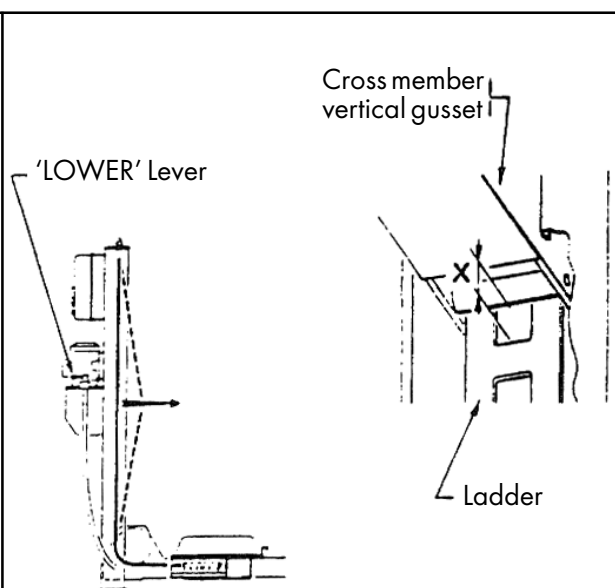

Fig. 13
- Lower the platform to the ground. Release the button that unlocks the latches and then the 'LOWER' lever, after having pulled on the wire rope in column 4 (Fig. 13) so that the ram is fully extended.
- Measure the dimension 'X' (See Fig. 13) for each column and identify the highest cross-member end in relation to the ladder slots.